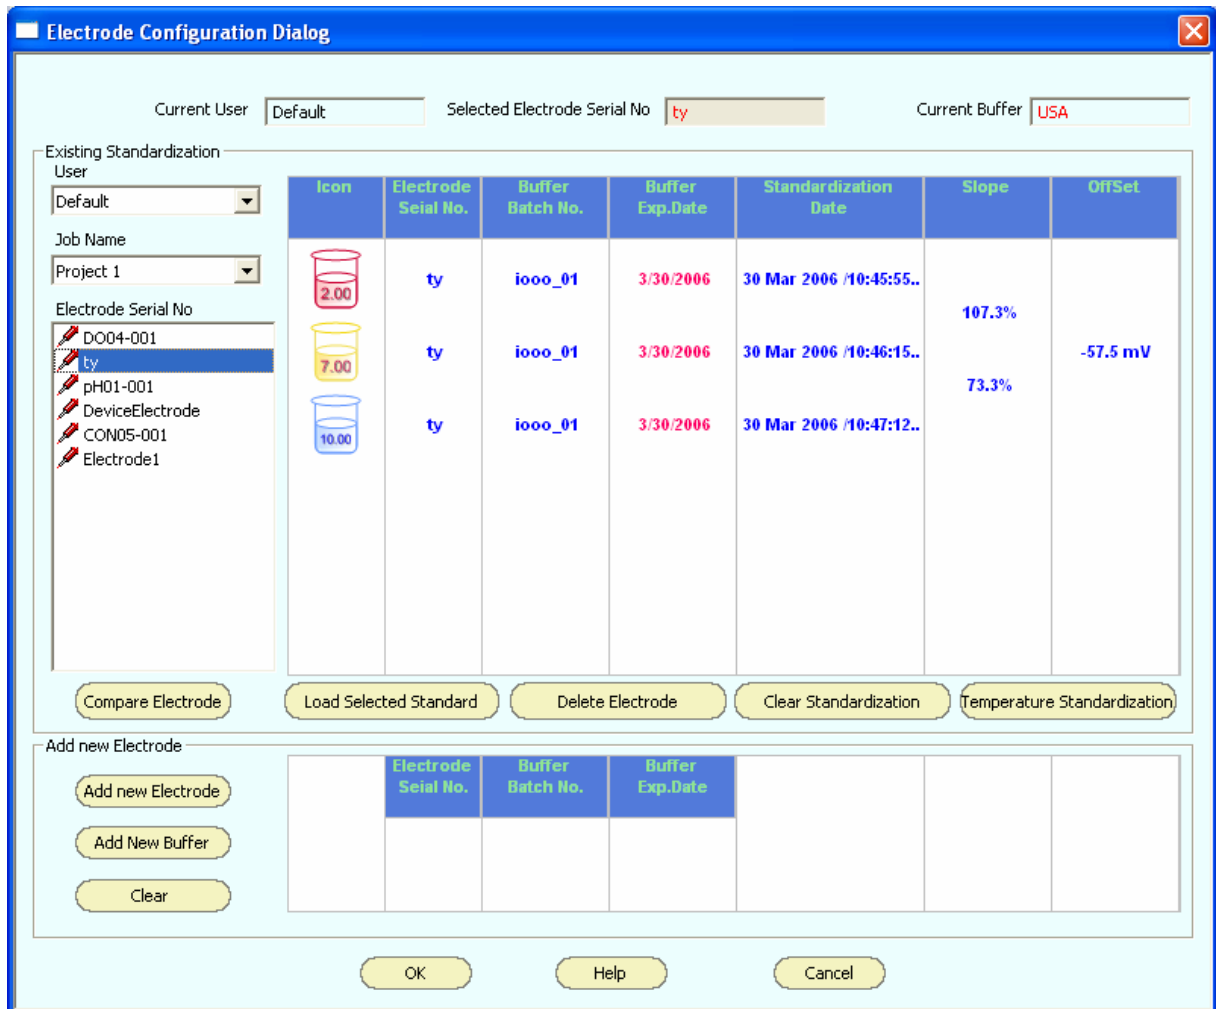

Figure 25 : New standardization using an existing electrode
5. **Electrode Configuration Dialog** appears. (Figure 25)